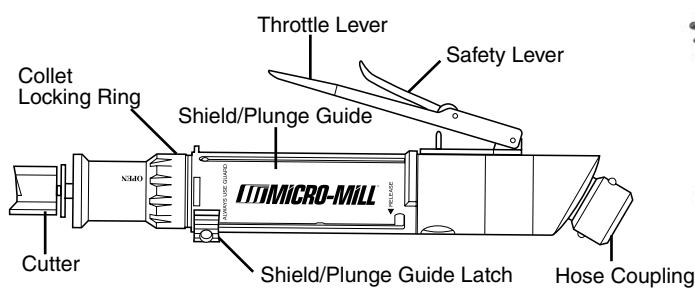

Fig. 7
9. The safety is disengaged when the surgeon places a finger under the safety lever (Fig. 7).